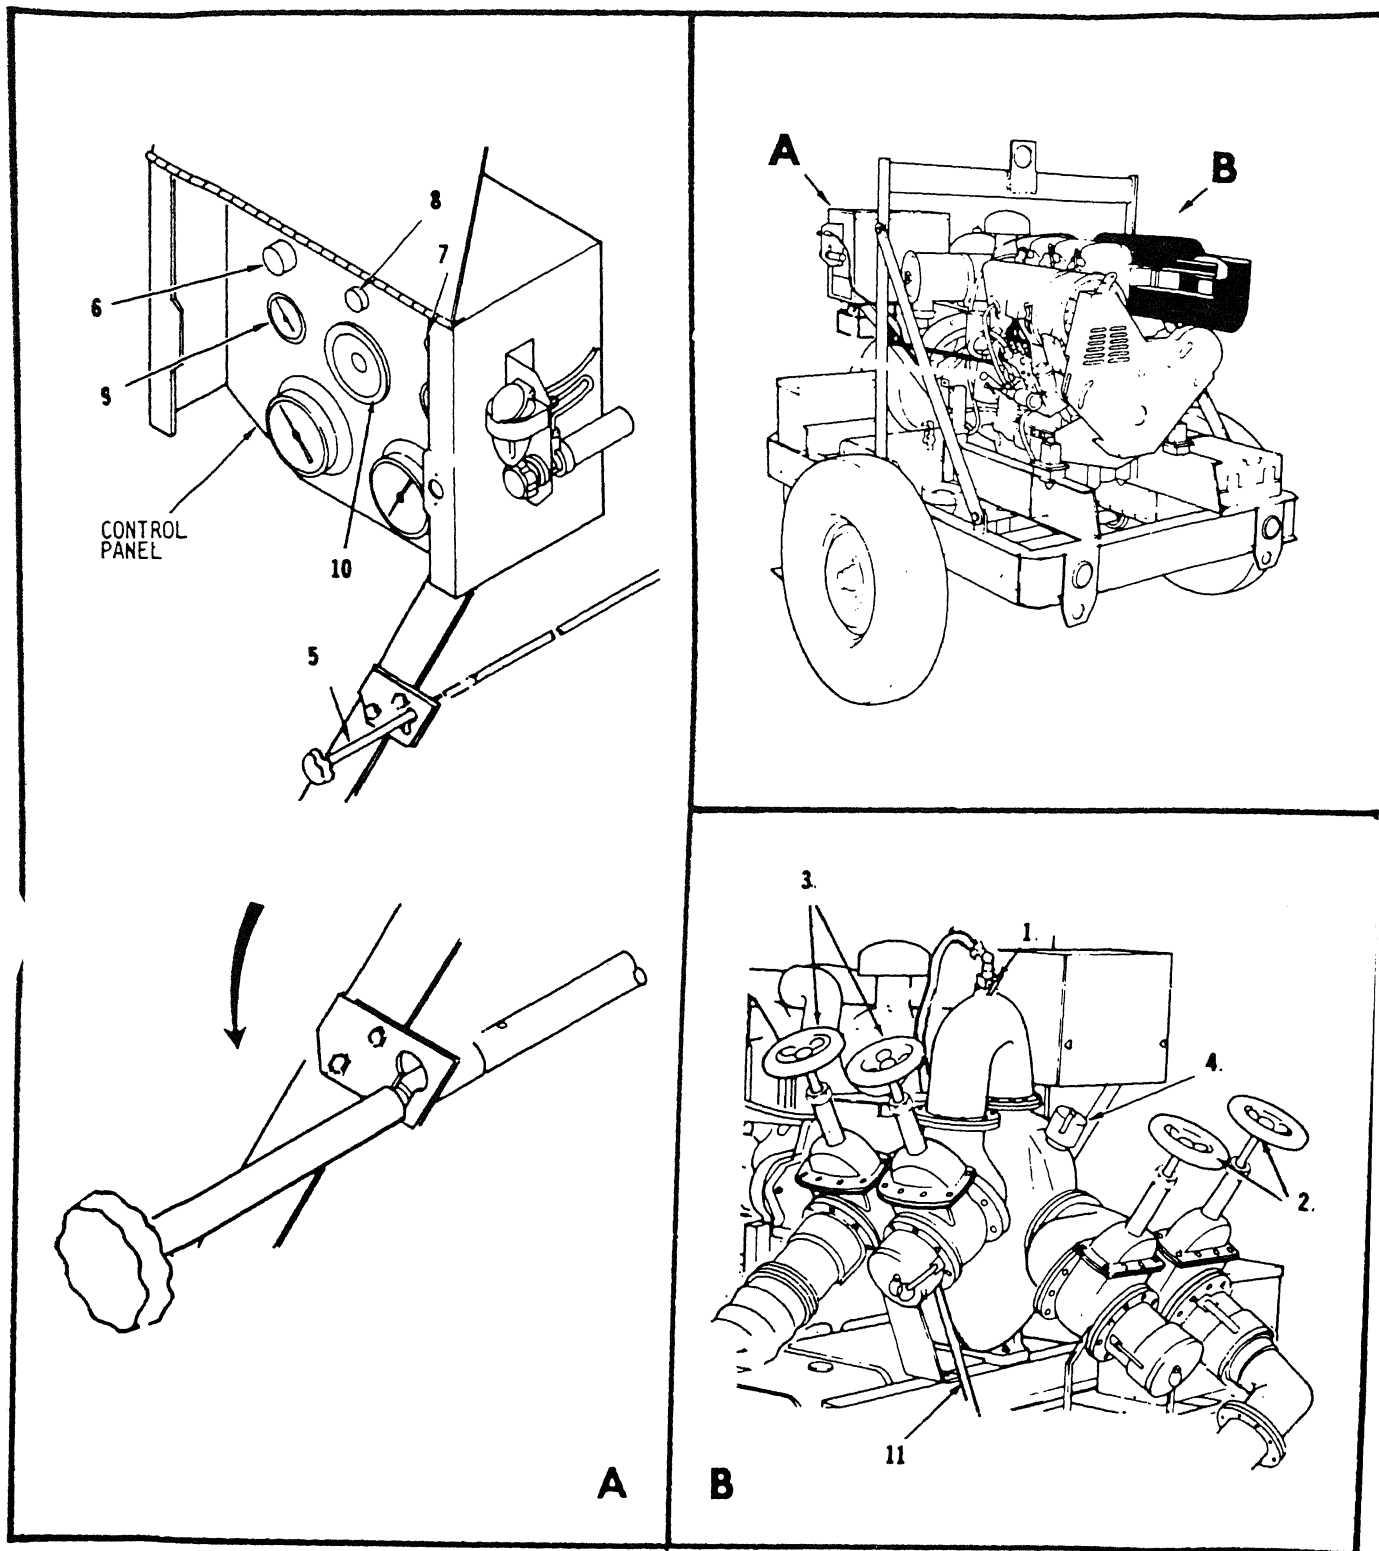

Figure 2-6. Starting and Shutdown Controls for Models 13220E1070, 13225E9200 (97403), and LC 350GPM (36024).
- (1) Open vent valve (1, figure 2-6) and insure that all suction valves (2), and discharge valves (3) are closed.
- (2) Check pump fluid level by carefully opening camlock levers on priming port cap (4) and raising port cap slightly to see if liquid is discharged from priming port. If liquid is discharged, quickly install priming port cap and place camlock levers in locked position. If fluid is not discharged, remove port cap and add clean liquid of the type to be pumped, until the liquid level reaches the top of the priming port.
- (1) Push and raise throttle control (5, figure 2-6) from detent to set engine speed to idle.
- (2) After approximately two minutes, close discharge valve (3) and suction valve (2).
- (3) Push in EMERGENCY STOP switch (6).
- (4) Perform after operation PMCS (Table 2-1).